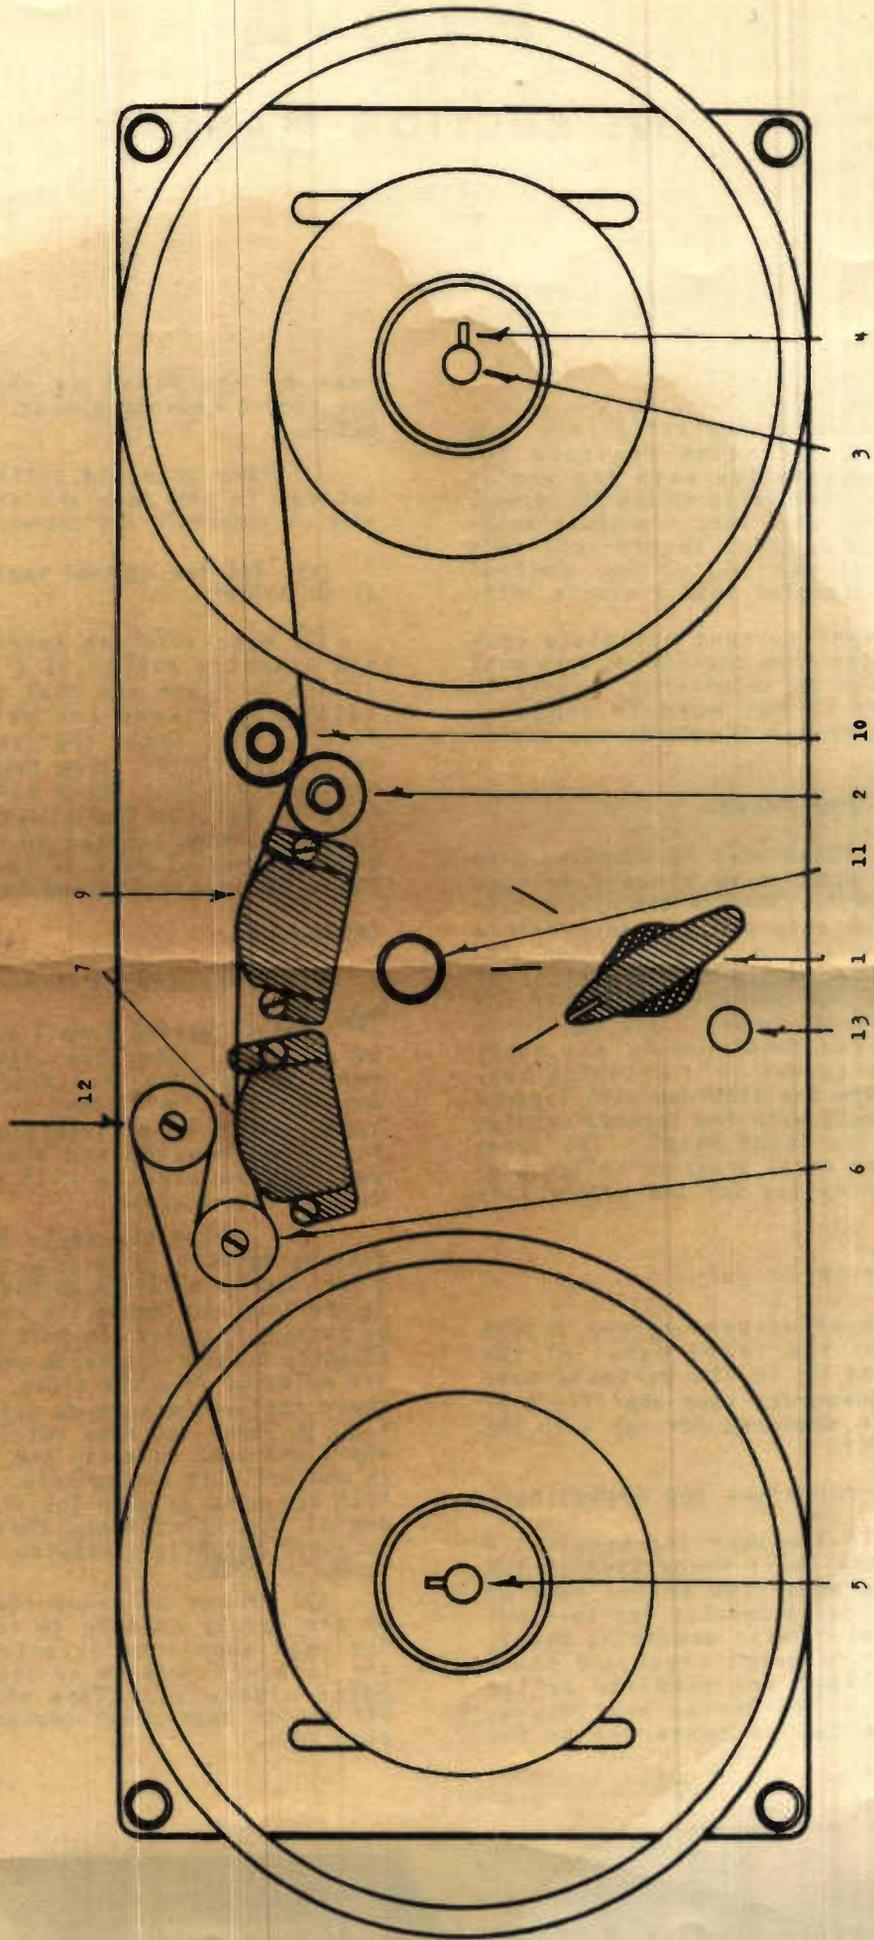

FIGURE 1
The bias indicator lamp (11 in Fig. 1) will glow when plate supply voltage is being supplied to the oscillator tube. This indicates that any previous recording on the tape is being erased and a new recording may be made.
(1) Make sure the oscillator tube located in the rear and at the right side is secure in its socket.
(2) Set the control knob (1 in Fig. 1) to "STOP".
(3) Make sure the correct capstan and pressure roller (2 & 10 in Fig. 1) are in place and that the knurled retaining screws are screwed down firmly. The small (7½"/sec) capstan operates with the large rubber covered pressure roller. Make sure that the tapered hole in the capstan and the tapered shaped capstan shaft are completely free of dirt or foreign particles before installing the capstan.
(1) Place the empty reel on the take-up spindle (3 in Fig. 1). Before a reel can be installed on the spindle it is necessary to remove the reel retainer by pushing it toward the unit and turning slightly counter-clockwise until the pins are released from the slots. Place the empty reel on the take-up spindle (3 in Fig. 1). Put the reel retainer on the shaft and push in until the 3 pins are in contact with the spindle. Make sure that the pins go down the slots in the end of the spindle and then turn the retainer slightly clockwise until it is locked in place.
(2) Place a loaded reel of tape on the supply spindle (5 in Fig. 1). The reel should be oriented so that the tape will unwind as the reel rotates clockwise. Tape should come off top of spool with coated, or dull side down.
(3) Turn the supply reel clockwise by hand so that approximately 18 inches of tape or leader will unwind.
(4) Insert the end of the tape or leader in the slot on the inside of the take-up reel.
(5) Rotate the take-up reel clockwise until there are at least two full turns of tape on the reel.
(6) Slip the tape into its normal travel path; under the idler (6 in Fig. 1); over the erase head (7 in Fig. 1); over record-reproduce head (9 in Fig. 1); between capstan (2 in Fig. 1) and pressure roller (10 in Fig. 1).
(7) Rotate take-up reel to remove slack.
(8) Connect the unit to the Magrecorder PT6 amplifier. Note: If the PT6-A is to be used with some other amplifier, 117 volt 60 cycle AC must be supplied to the motors; and filament power at 6.3 volts .3 amperes and plate supply of 300 volts at 40 ma must be supplied to the oscillator tube. See schematic.
(9) Turn the control knob to "FORWARD". This puts the unit into forward operation at a speed determined by the capstan being used. If the tape does not move smoothly between the capstan and pressure roller, lift the pressure roller slightly to permit the tape to align itself properly.
(10) To rewind the tape, turn the control knob to "STOP", then place tape over lift bar so that the tape is lifted clear of the heads. Turn the control knob to "REWIND". The rewind mechanism, driven by a shaded pole motor, will completely rewind 1200 feet of tape (full 7½" reel) in approximately 40 seconds. The loaded reel will rotate at an increasingly higher speed as the tape is transferred back to the supply reel during rewind. The control knob may be turned to "STOP" at any time during rewind without danger of tape throw. Be sure that the tape is lowered to its normal position on the heads before attempting to record or reproduce.
(11) The bias indicator light (11 in Fig. 1) will glow when the oscillator tube plate supply voltage is applied through the Jones male connector. If the PT6-A is being used with any of the Magnecord PT6 Series amplifiers, the light will go on when the amplifier Selector Switch is turned to "RECORD". An inter-lock in the PT6-A will turn off the oscillator and the lamp whenever the PT6-A control is turned to "STOP" or "REWIND". See schematic.